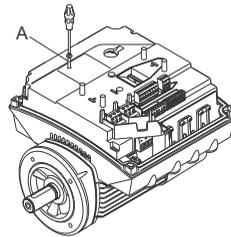

Fig. 61 Removing the securing screw
3. Remove the securing screw (fig. 61, A).
- Fit and tighten securing screw (fig. 61, A) to 1.3 Nm.